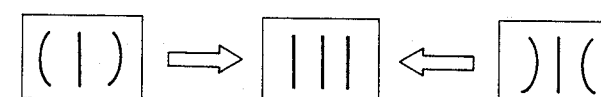

Fig. 21-4
2. Adjust SIDE PIN by turning DA board RV15 as shown in Fig. 21-4.